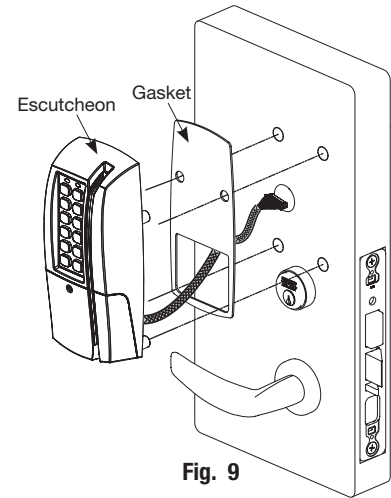

Fig. 9
3. Feed reader cable through side opening (Fig. 9).